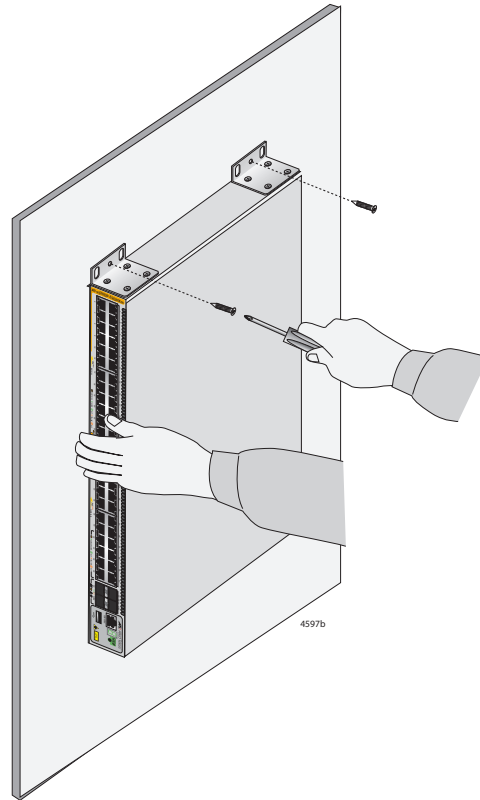

Figure 44. Installing the Switch on a Concrete Wall
7. Have another person hold the switch at the selected wall location while you secure it to the wall with the M4x32mm screws provided. Refer to Figure 44.